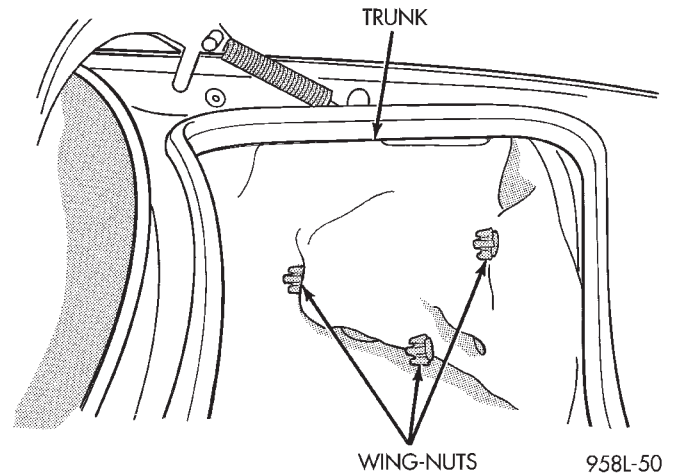
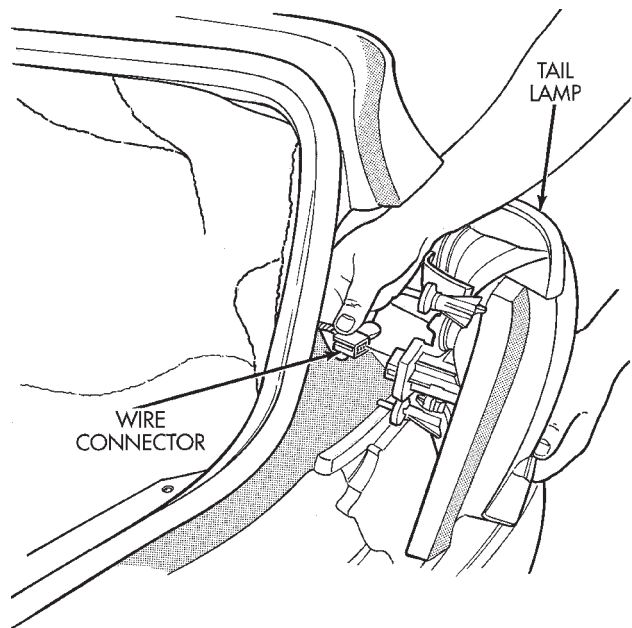

Fig. 5 Tail Lamp
Fig. 6 Tail Lamp Wire Connector
- (1) Release decklid latch and open decklid.
- (2) Remove wing-nuts attaching tail lamp to rear closure panel (Fig. 5).
- (3) Remove lamp from opening in quarter panel.
- (4) Disconnect wire connector from back of tail lamp (Fig. 6).
- (5) Remove tail lamp from vehicle.